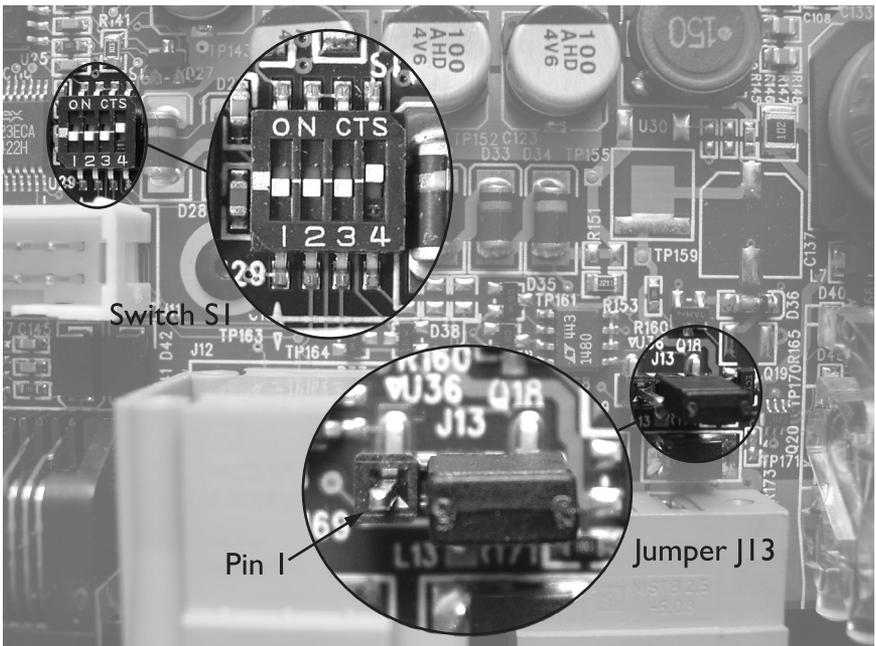

Figure 14: Pulsar 710 PCB
3. Switch S1 and Jumper J13 are used for these alternate trigger configurations. Figure 14 shows the location of S1 and J13.